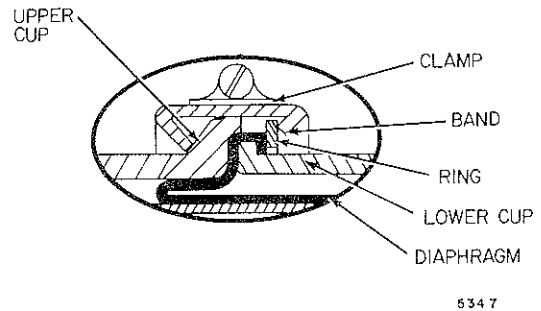

Fig. 10. Operator Body Assembly, MP903A and B Series 1 and 2; and MP904A and B Series 1.
7. Connect upper and lower cups per Figures 10, 11, or 12, and tighten locking screw. Tap rim to ensure proper seating, repeating tapping until band is tight.
NOTE: The band has two sets of ears holding the two-part body together. Refer to Figures 10, 11, or 12 for proper band positioning.
NOTE: The band has two sets of ears holding the two-part body together. Refer to Figures 10, 11, or 12.